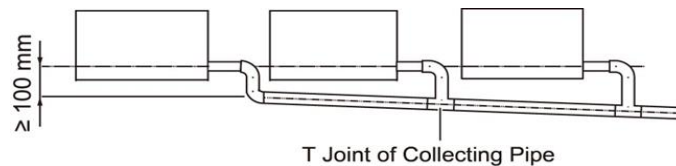

Fig12
- d) When connecting several drain pipes, follow the instruction as indicated in (Fig12).